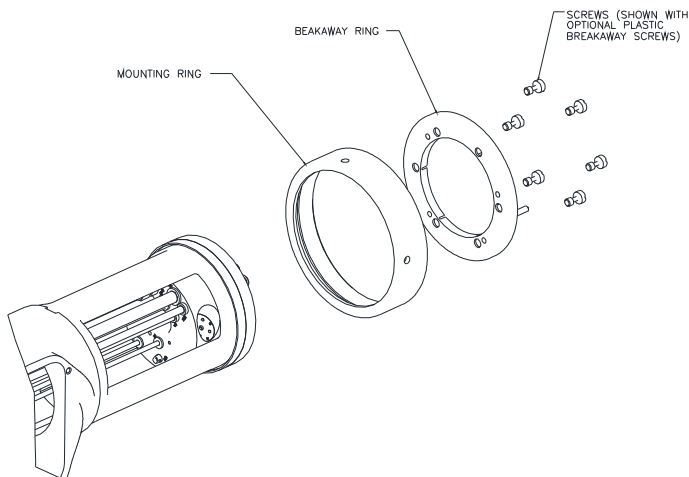

Figure 39: Break-Away Ring
Remove the mounting ring by first removing the break-away ring. Loosen the six (6) screws that hold the break-away ring to the rear plate assembly (see Figure 39). The break-away ring and the mounting ring will now come off.